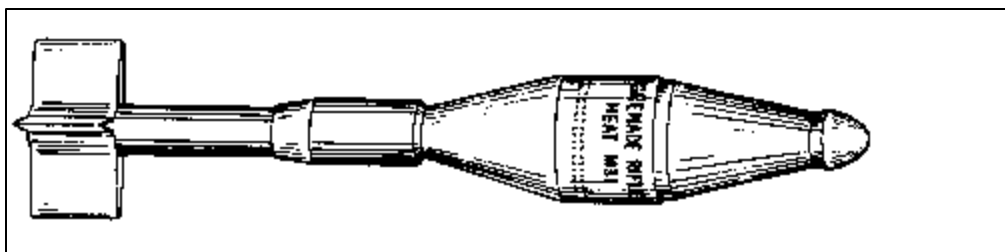
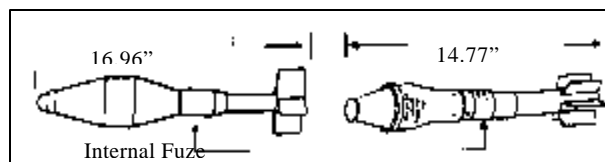

Figure 53. U.S. M31 AT rifle grenade.
Figure 54. AT rifle grenades.
- (3) The AT rifle grenades (shown in Figure 53 and Figure 54) is used to destroy armor. This is done with a shaped charge.